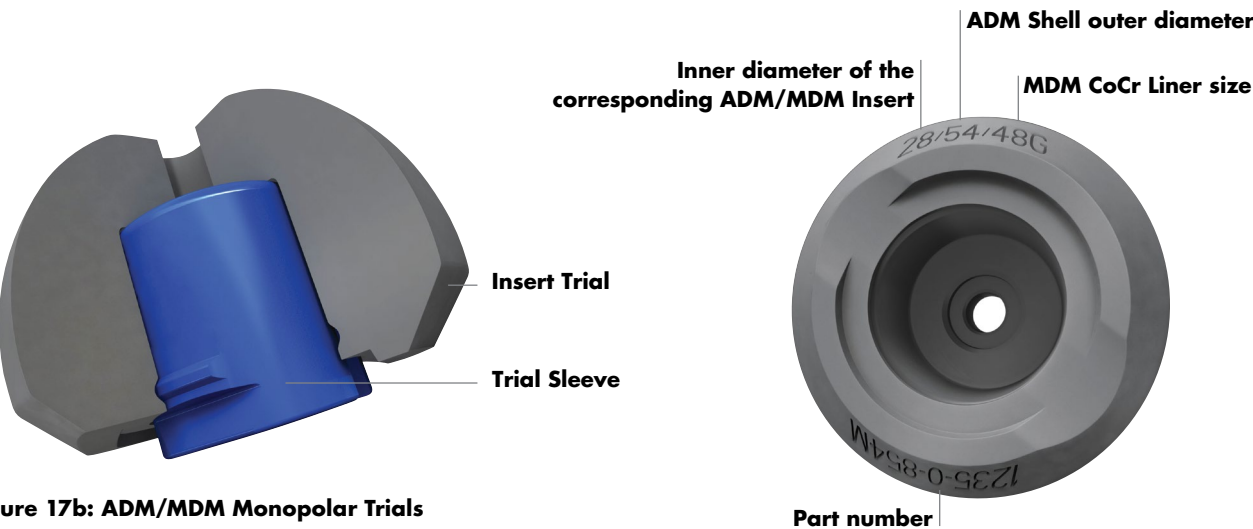

Figure 17b: ADM/MDM Monopolar Trials
- If using the ADM/MDM Monopolar Trials, place the Trial Sleeve that corresponds to the desired femoral head taper and offset into the appropriate Insert Trial by firmly pushing the Sleeve into the inner geometry of the Insert Trial (**Figure 17b, Tables 7-9**). Correct assembly of the Trial Sleeve and Insert Trials will produce an audible click. The size of the Insert Trial will correspond with the MDM Liner being implanted (**Tables 7-9**).